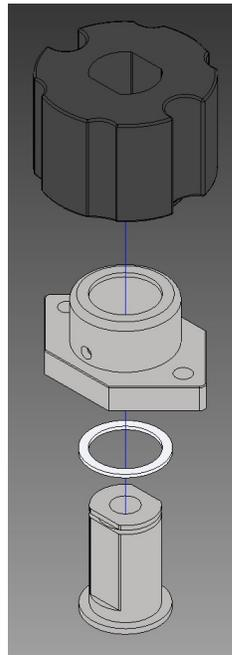

FIGURE F. 12. - OPERATOR ASSEMBLY
2. OPTIONAL– If required, assemble operator assembly (see Figure F.12.)